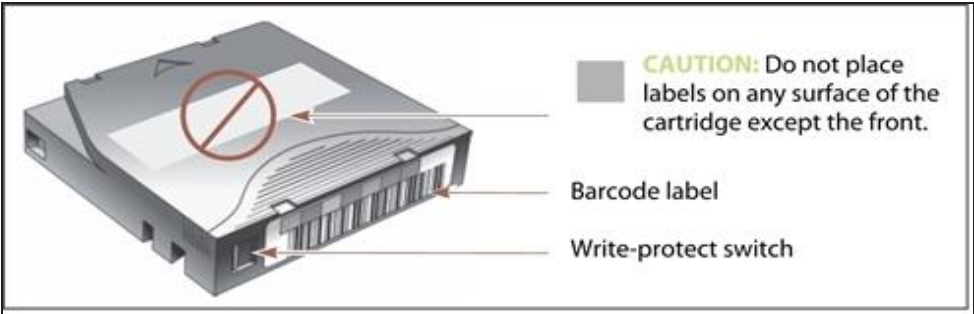

Figure 138 Attach barcode labels to cartridges and check write-protect switch setting (LTO cartridge shown).
1. If your cartridges are unlabeled, prepare and affix a barcode label to each cartridge. Position each label in the indented area on the cartridge, as illustrated in Figure 138. See Barcode Label Specifications on page 602 for detailed information about barcode labels.
Do not place labels on any surface of the cartridge except the area shown in Figure 138. An improperly positioned label can become dislodged and damage the drive.